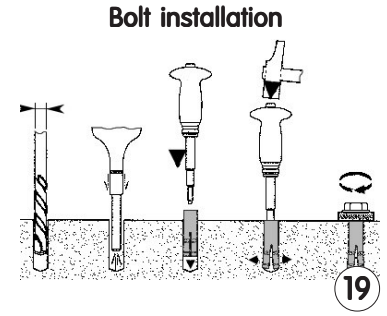
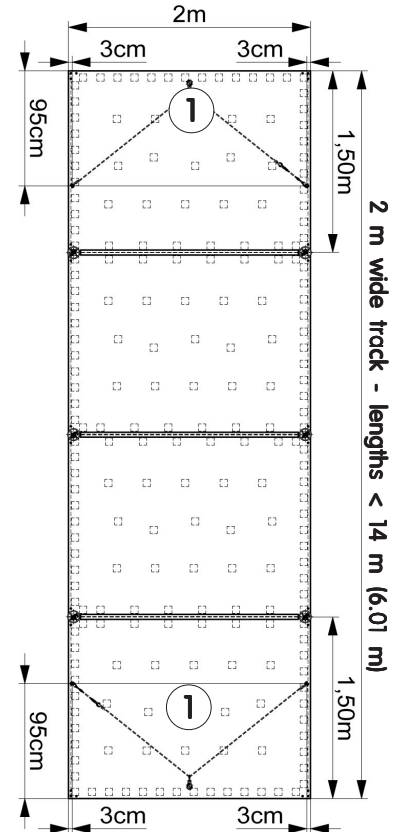

Figure 6
Figure 7
- Plot the position of the two end panels (1), and the position of the attachments as shown in **Fig. 6 and 6a** or **Fig. 7 and 7a**.
- Carefully vacuum clean the holes before inserting the hammer-type bolts (19) provided: insert the collar, then hammer the bottom in order to secure it to the ground, using an appropriate tool (follow the steps shown on the right).